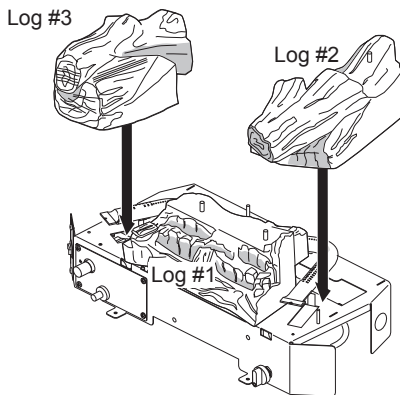

Figure 23 - Installing Log #2 (Right) and Log #3 (Left) (Model VRL30NR Shown)
- Place log #2 to right of log #1 and onto log alignment screw as shown in Figure 23. Log #2 will wrap around right end of rear burner (see Figure 23).
- Place log #3 on left side of base and onto alignment screw to right of rear burner (see Figure 23). Log #3 will wrap around left end of rear burner.